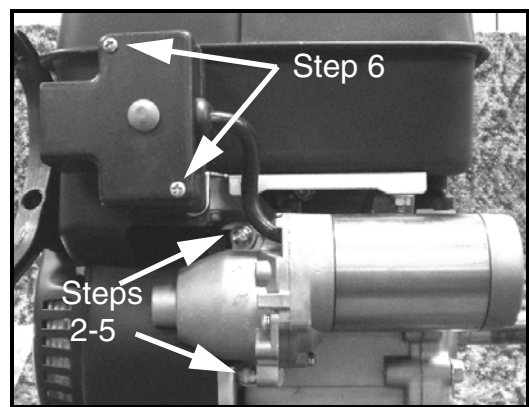

FIGURE 1
2. Using a 8mm socket, extension and ratchet, remove the two (2) screws securing the electric starter motor to the engine block. See Figure 1.
5. While the engine block is hot, **being careful not to touch the HOT muffler, muffler heat shield or engine block**, remove and discard the two (2) screws securing the electric starter motor to the engine block.